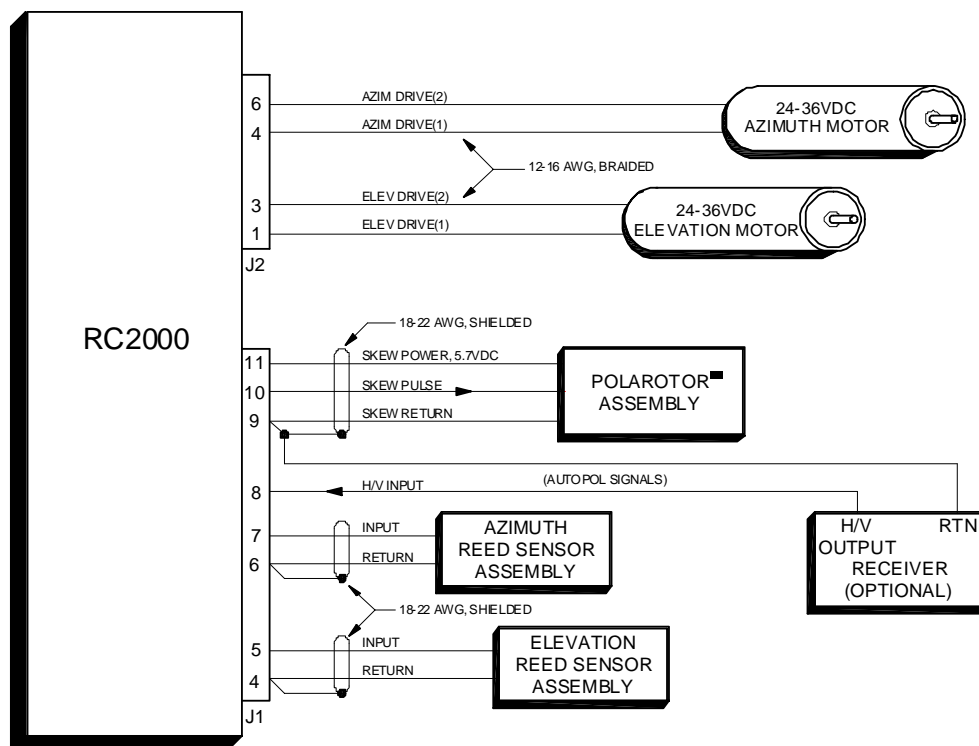
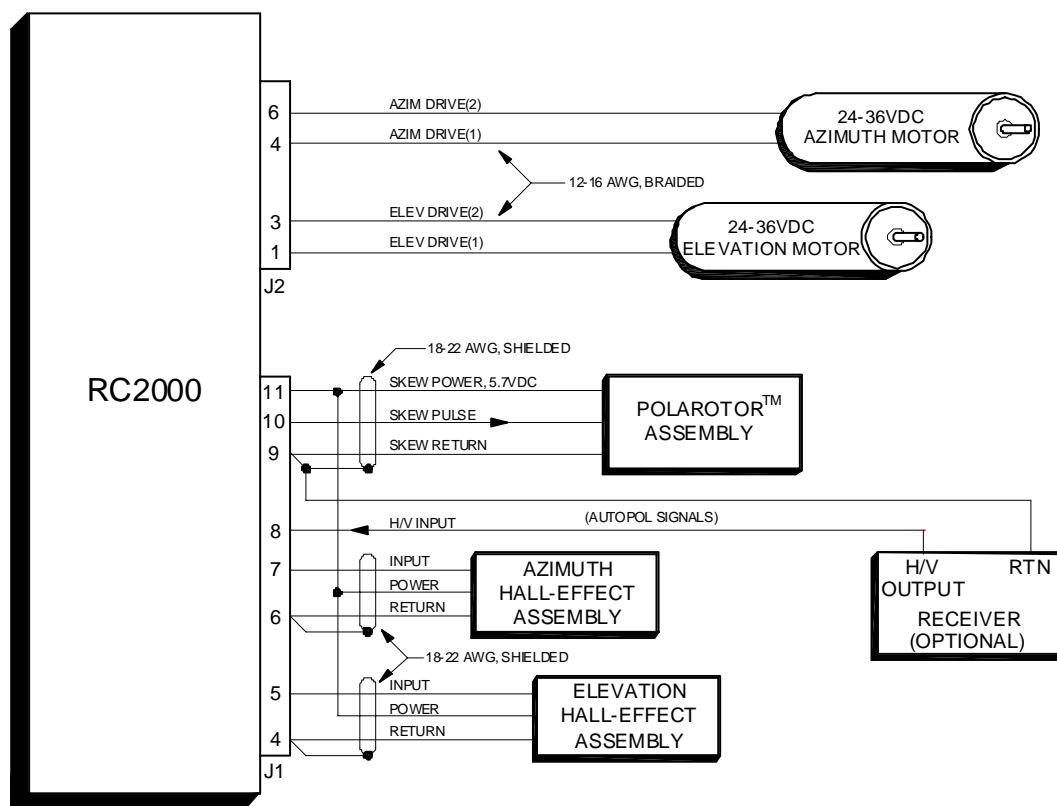

Figure 3.2 Reed Sensor Diagram
Figure 3.3 Hall Effect Diagram
If reed switch sensors are used, each axis requires 2 wires in a shielded cable. If Hall effect sensors are used, each axis requires 3 wires in a shielded cable. Shielded cables are required to minimize noise pickup which can result in antenna positioning errors. Please refer to figure 3.2 for reed sensor connections and figure 3.3 for Hall Effect sensor connections.
2. Connect the AutoPol input as shown in figures 3.2 or 3.3.